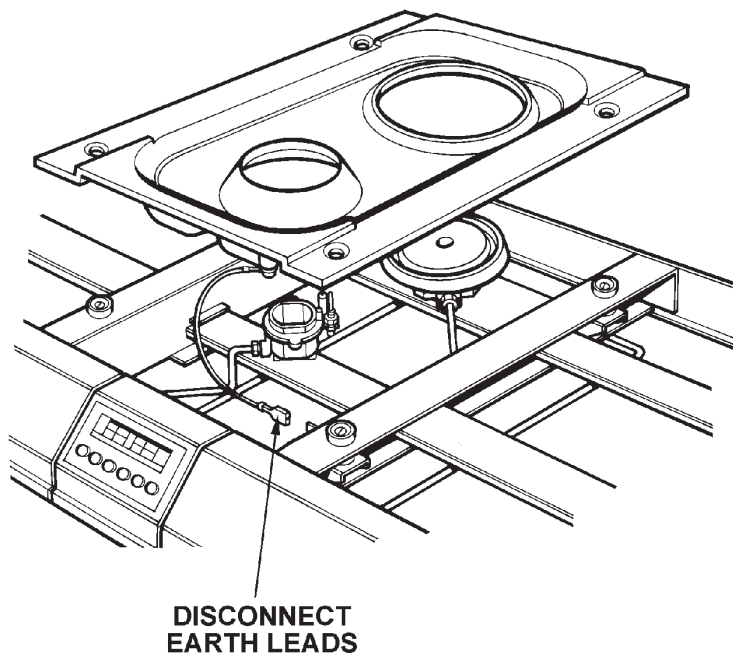

Fig. 33
**NOTE:** Each hotplate casting has an earth lead. Each lead must be disconnected before completely removing hotplate casting. (See Fig. 33).